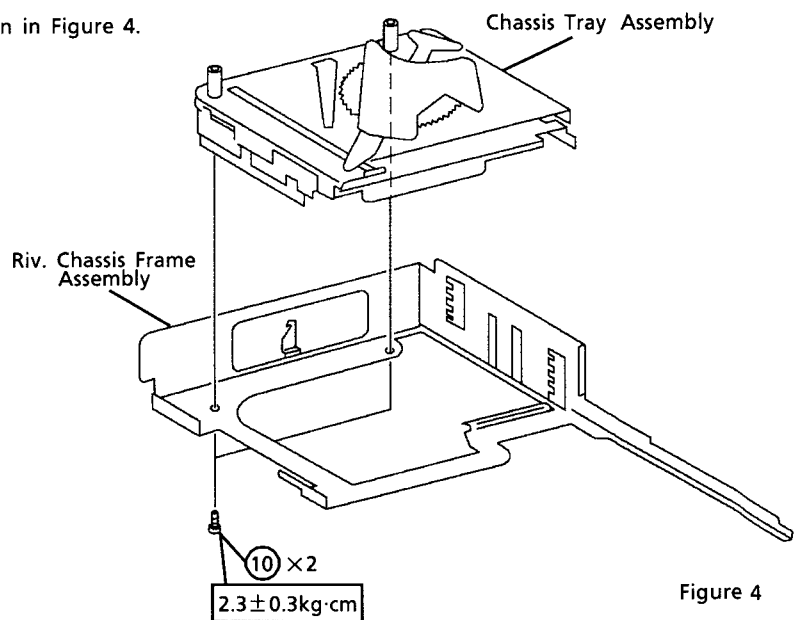

Figure 4
- (1) Remove the two screws (10) as shown in Figure 4.